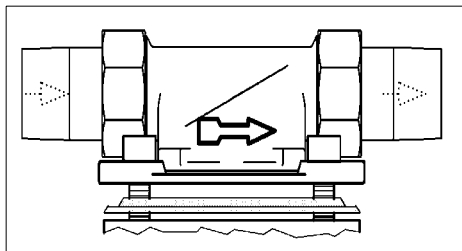

Fig. 1: Built-in rotary flange
- Direction of flow (see fig. 1)
The built-in rotary flange must be installed in the direction of flow. This is marked by a cast in arrow (see fig. 1).